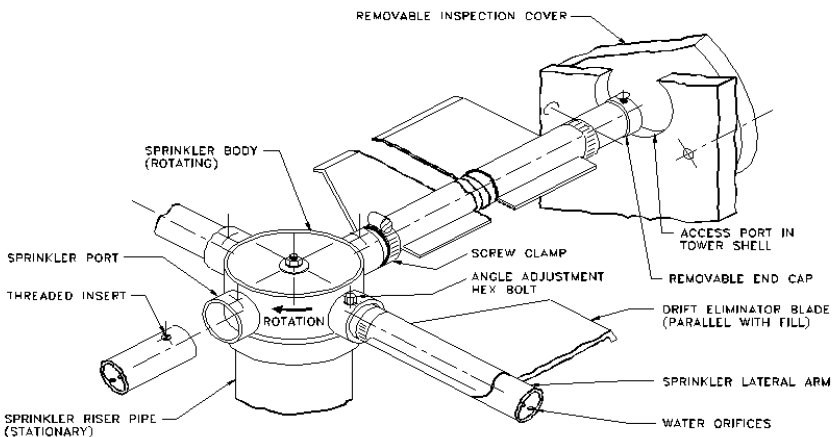

Figure 2 – Water Distribution Sprinkler System
- All four (4) sprinkler lateral arms, (see Figure 2), are normally shipped detached and are packaged and secure inside the tower. Remove these lateral arms before up-righting and lifting cooling tower.
- Two (2) aluminum lifting lugs secured to the top of the cylindrical section of the cooling tower are provided for up-righting and lifting purposes. Install adequate hooks and
The drift eliminator blades are preassembled to each lateral arm. Simply check to be sure the hose clamps on each end of the lateral arms are tight. With the lateral arms installed, the drift eliminator blades should be parallel with the top of the fill (See Fig. 2).
- To remove the sprinkler head, first remove the sprinkler lateral arm and drift eliminator blade assemblies. Then remove the two (2) riser pipe screws. (Refer to Figures 2 and 4).
1. Match mark riser pipe assembly and coupling. Remove the two (2) riser pipe screws and remove the entire sprinkler head assembly from the coupling.